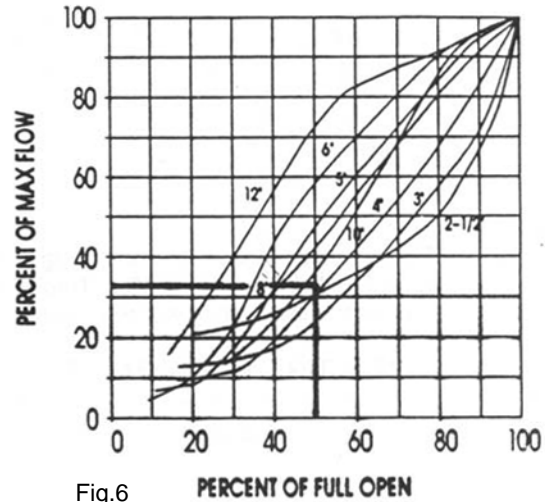

Fig.6
6.3.3 Locate percentage of valve opening on the bottom scale of Flow Characteristic Curve (Fig. 6). Project line vertically up to intersect with the Valve Characteristic Curve and from this point project line horizontally across to the left of the chart and record the percentage of maximum flow rate.
From Flow Characteristic Curve (Fig. 6), a 4" valve, 50% open, represents 35% of maximum flow.